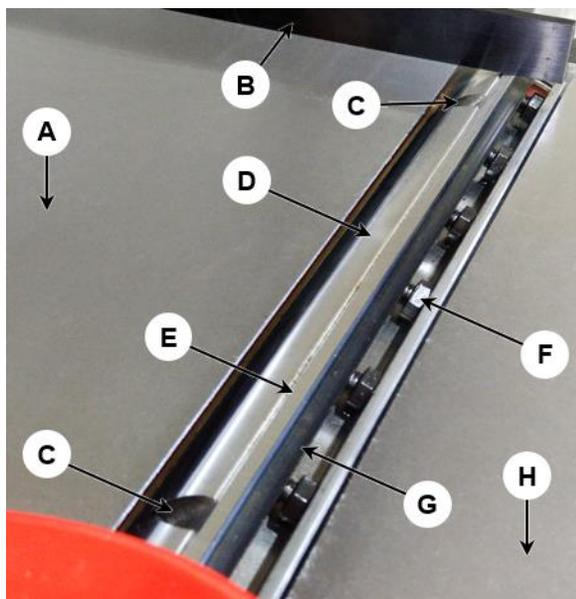

Figure 16 – Straight Knife Cutterhead (Model JPJ-12B Only)
4. Place a *straightedge* (B) on the *outfeed table* (A) near the back of the table. One end of the straightedge should be positioned over the *cutting knife* (E) near the end of the blade as shown in Figure 16.
Refer to Figures 16 and 17: